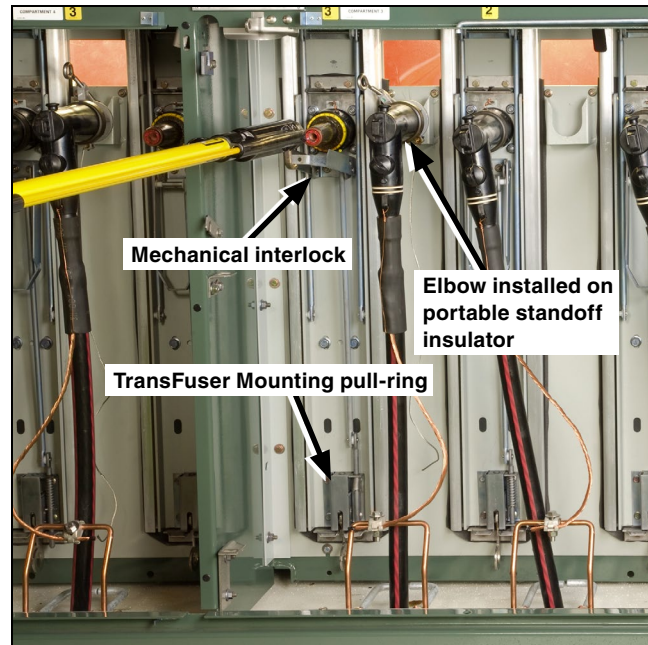

Figure 16. Raising the mechanical interlock to unlock the TransFuser Mounting.
STEP 3. When the elbow has been moved and mounted on a feedthru or standoff insulator, the TransFuser Mounting mechanism may be operated. Using the shotgun stick, raise the mechanical interlock to unlock the TransFuser Mounting. See Figure 16. This interlock, which cannot be lifted to the **Unlocked** position until the elbow has been removed, guards against gaining access to the fuse while it is carrying current.